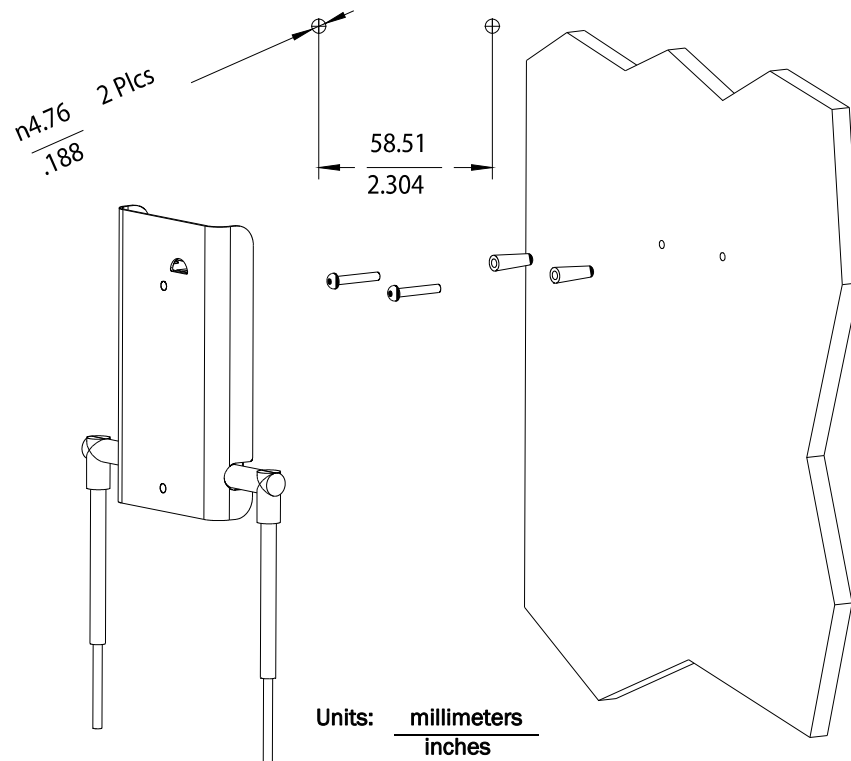

Figure 2-12: Mounting the IntelliVue Smart-hopping 1.4 GHz Remote Antenna to a Wall
1. Using a 3/16-inch drill bit, drill two pilot holes 0.188 inches (5 mm) in diameter at the locations shown in Figure 2-12.
3. Screw a supplied #6 x 1 1/4 inch self-tapping screw into each screw anchor (or pilot hole) as shown in Figure 2-12.
4. While holding the RA chassis with its antennas pointing down as shown in Figure 2-12, fit the holes in the back of the RA chassis over the screw heads